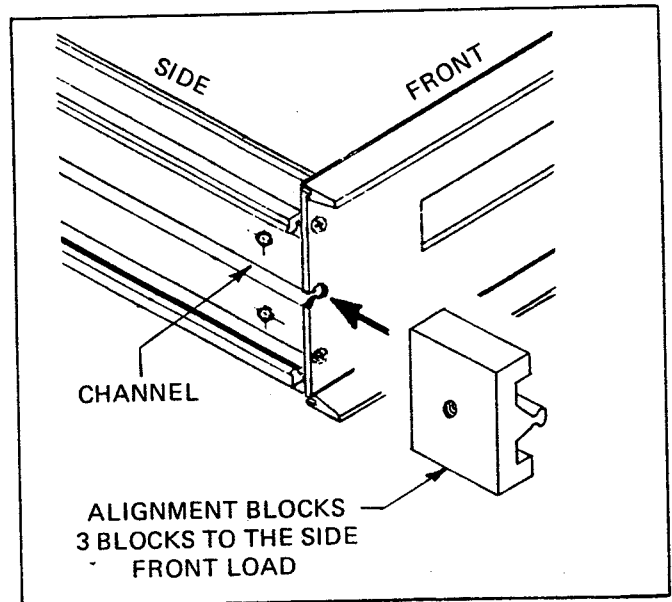

Figure 2.2 - Loading the alignment blocks
2.4.3.6 Slide 3 alignment-blocks down each channel which are exposed by the removed handles. The drawing in Fig. 2.2 presents the front-left corner of the instrument with the handle removed. The alignment-blocks will move freely along the length of the channel on each side of the instrument.